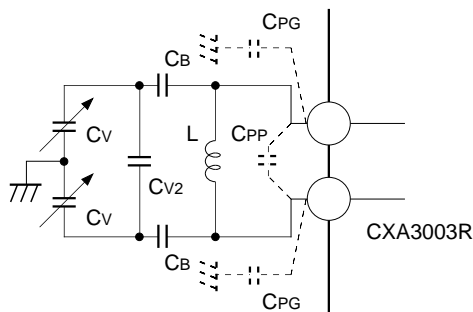

Fig. 13 VCO capacitors
The net capacitance of the tank circuit comprises a varactor diode (CV), an optional scaling capacitor connected (CV2) in parallel with the varactors, two DC blocking capacitors (CB) isolating the DC bias from the varactors from the CXA3003R, and pin-to-pin and pin-to-ground parasitic capacitors (CPP, CPG) (shown in Fig.13). The net tank capacitance is found from